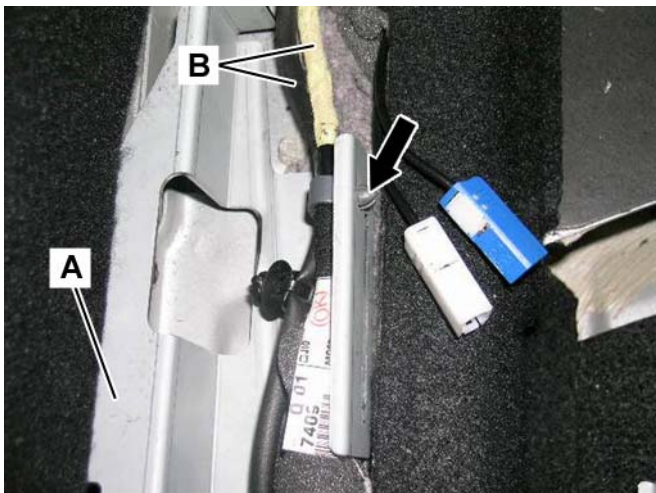

Figure 13
8. Fasten the MOST harness and the power supply cable (B, Figure 13) by the Omega tie-clip (Arrow, Figure 13) to the hole in the bracket (A, Figure 13).